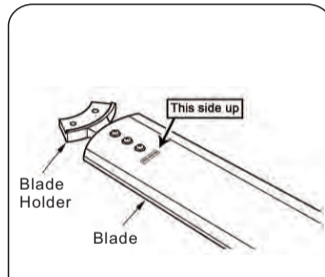

Fig.6
Step 2: Assemble the blade holder onto the fan body. Pay attention to the side up. (fig.6&7)